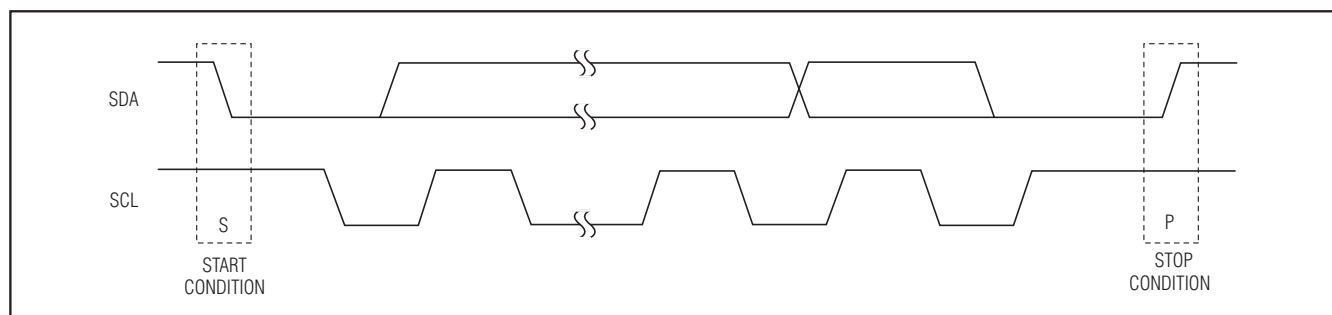

Figure 2. START and STOP Conditions
Each transmission consists of a START (S) condition (Figure 2) sent by a master, followed by the MAX7359 7-bit slave address plus R/W bit, a register address byte, 1 or more data bytes, and finally a STOP (P) condition.